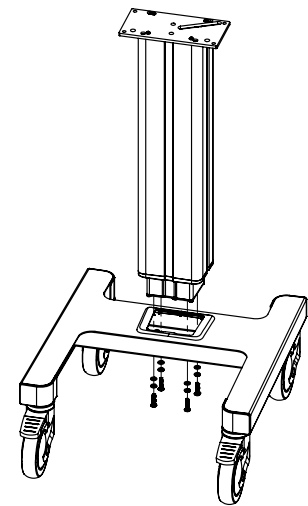

Figure 3
3. Join the **COLUMN** in **Box C** with the **BASE** by sliding the **COLUMN** into the opening on top of the **BASE** (**Figure 3**), and fasten 4x **1/4 - 20 x 1" LONG SCREWS**, 4x **#14 LOCK WASHERS**, and 4x **#14 WASHERS** through the bottom of the **BASE** into the **COLUMN** (**MOUNTING KIT** taped inside the **BASE**). Ensure the bottom of the vertical **COLUMN** is placed inside the collar (pre-installed in opening). You might find it easier to do this step with the **BASE** on its side - use the **COLUMN** box (**Box C**) to support the **COLUMN** if necessary.